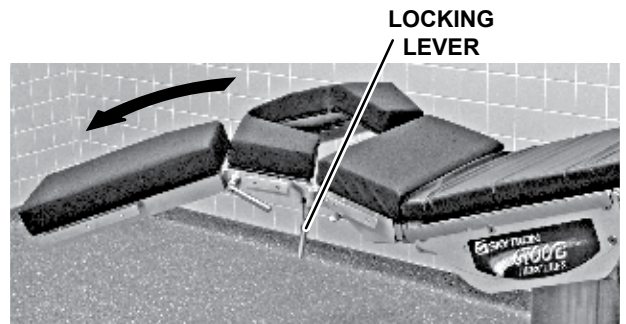

Figure 12. Leg Abduction Adjustments
- c. To abduct the patient's legs (Figure 12):